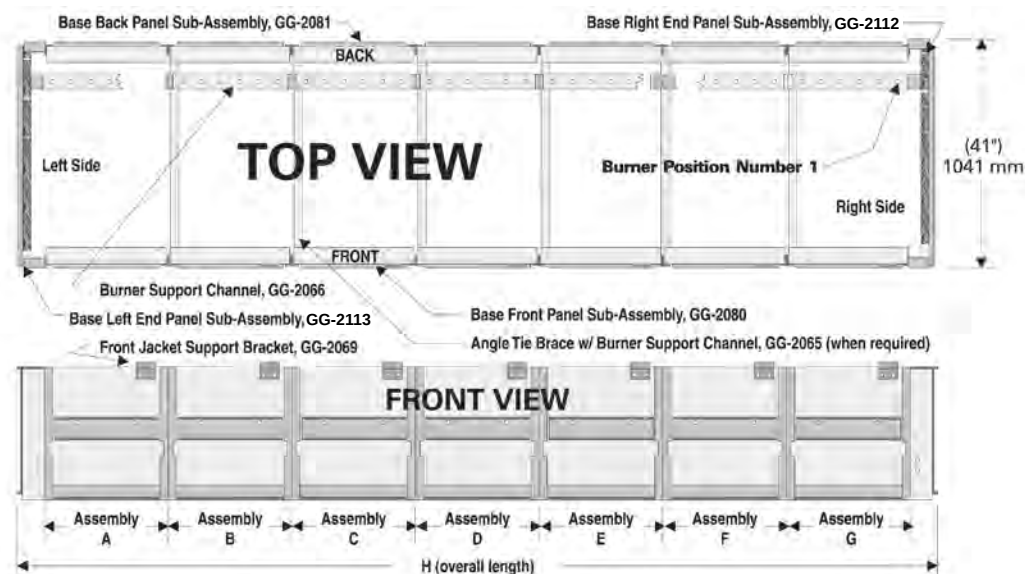

Figure 2.1: Boiler Base Assembly
7. Bolt remaining Front and Back Panels together using 5/16"-18 x 1" (25 mm) long cap screws and hex head nuts. See Table 2.1 for panels required. Place the panels in the positions shown in the table and Figure 2.1.
9. Set the Burner Support Channels in place as shown in Figure 2.1.
Table 2.2: Pilot Burner Locations - Numbered Right to Left (See Figure 2.1)